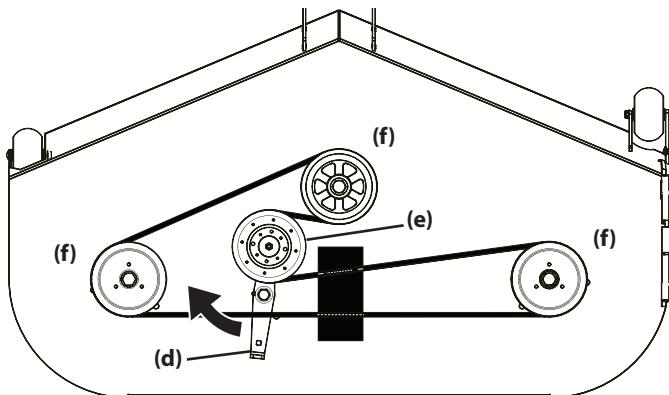

Figure 34
- After routing the belt around the PTO pulleys, use a 1/2" (12.7 mm) drive insert the end into the 1/2" (12.7 mm) square opening in the deck idler assembly (d) and rotate the deck idler assembly clockwise. See Figure 34.
- Using a 1/2" (12.7 mm) drive insert the end into the 1/2" (12.7 mm) square opening in the deck idler assembly (d) and rotate the deck idler assembly clockwise. See Figure 34.
- Route the new belt around the idler pulley and the spindle pulleys as shown in Figure 34.